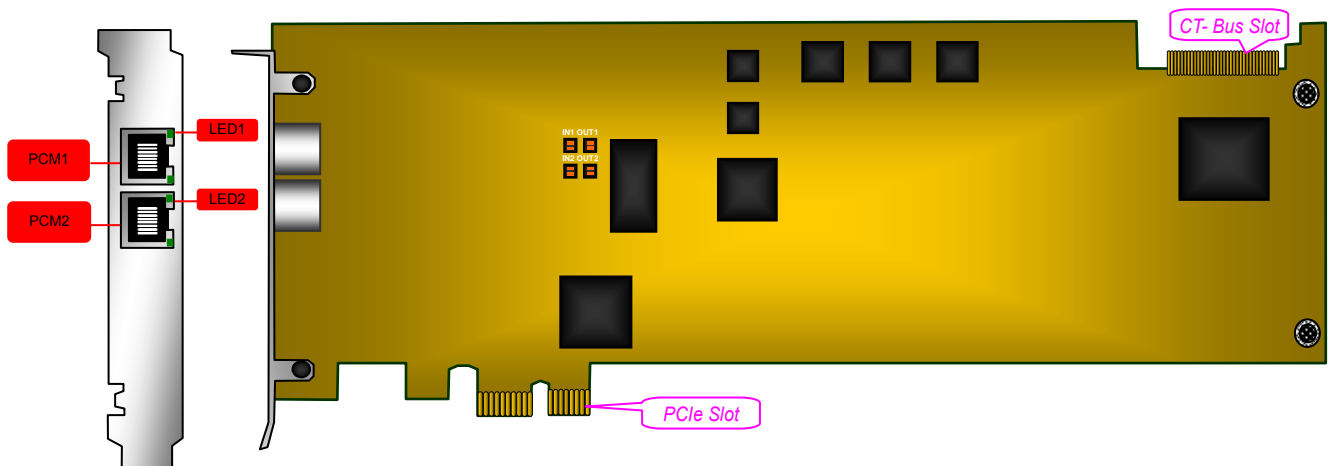
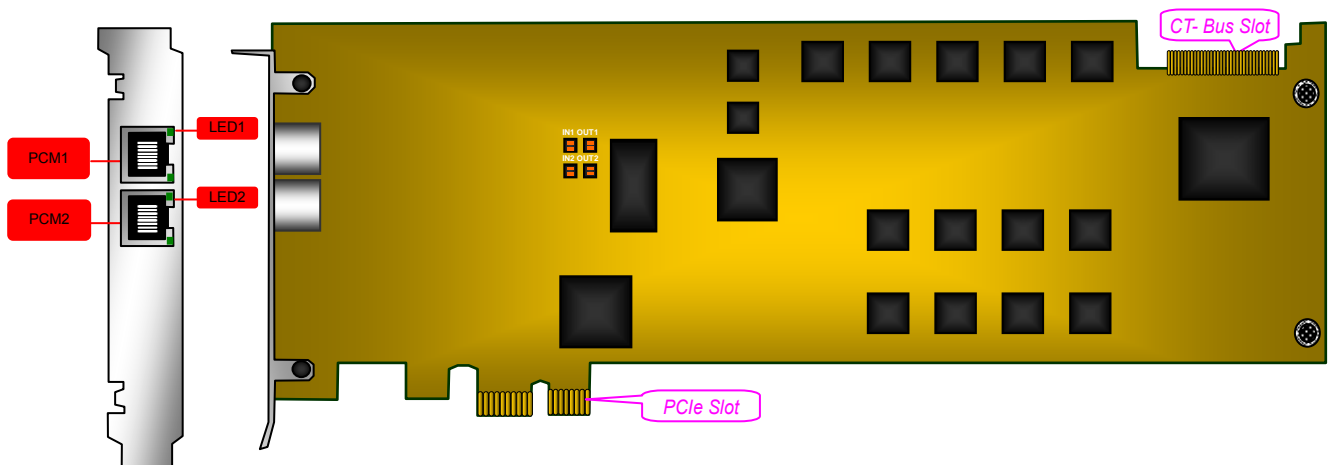

Figure 2-4 Left and Front Views
Figure 2-6 Left and Front Views
1. In Figure 2-4 and Figure 2-6, PCM1~PCM2 indicate 2 trunk interfaces while LED1~LED2 represent their synchronization indicators;